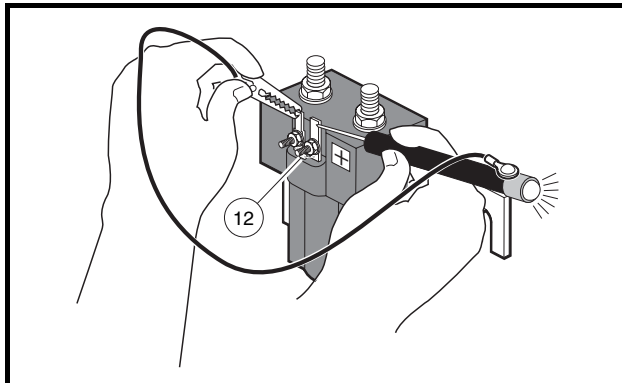

Figure 11-7 Diode Test – Probe Position One
- 3.1. Place the probe end of the tester on the small terminal of the solenoid marked positive (+) and place the alligator clip of the tester on the wire on the other small activating coil terminal (**Figure 11-7, Page 11-15**). The tester should illuminate, indicating continuity.